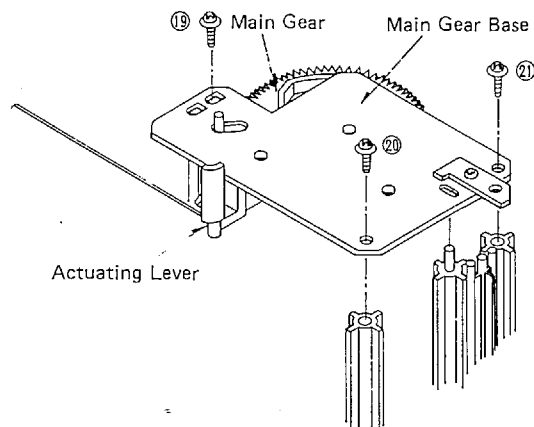

Fig. 9
1. Remove the screw holding the main gear base. (Fig. 9: ①9 ~ ②1).